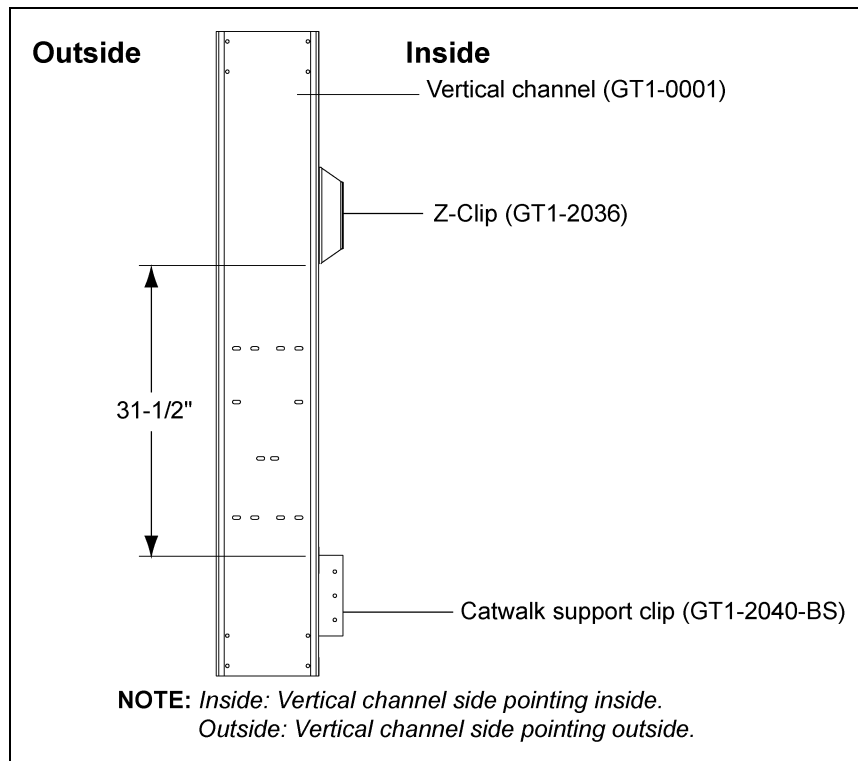

Figure 5C
2. The distance between the Z-clip and support clip for 18' inside catwalk is 31-1/2". (See Figure 5C.)